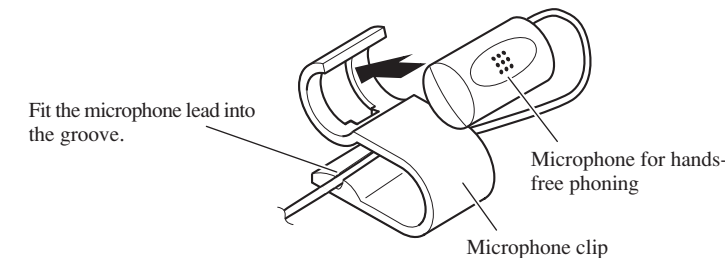

Fig. 14
1. Install the microphone on the microphone clip. (Fig. 14)